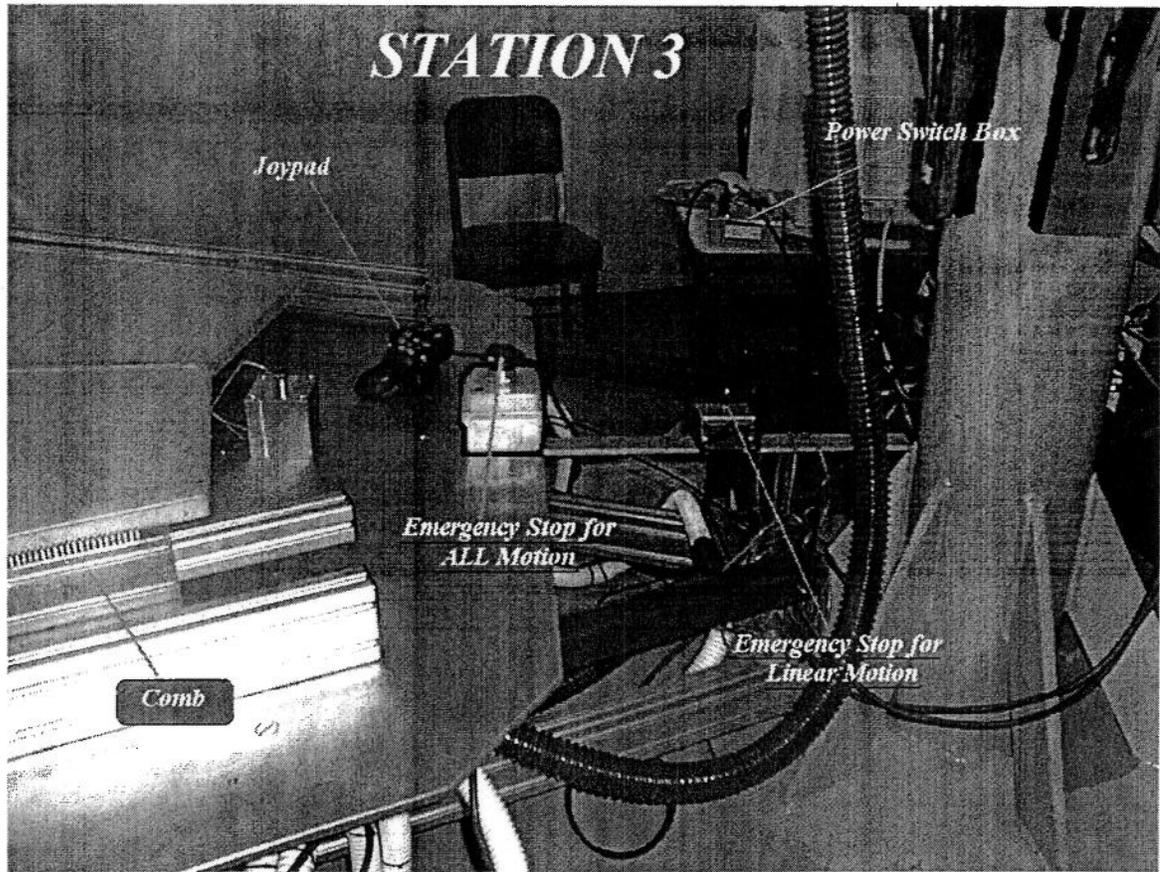

Figure 1 (Station 3, two emergency stops shown)
- 5.1. There is a grey box with a large red push-button on top, set on the table just in front of the tower (figure 1). If it is necessary to stop the motion of the boom immediately this button may be pushed in order to cut power to the motor.
- 5.2. There are also two smaller metal boxes with red buttons (figures 1 and 2) that can be pressed to stop motion of the carriage along the boom.